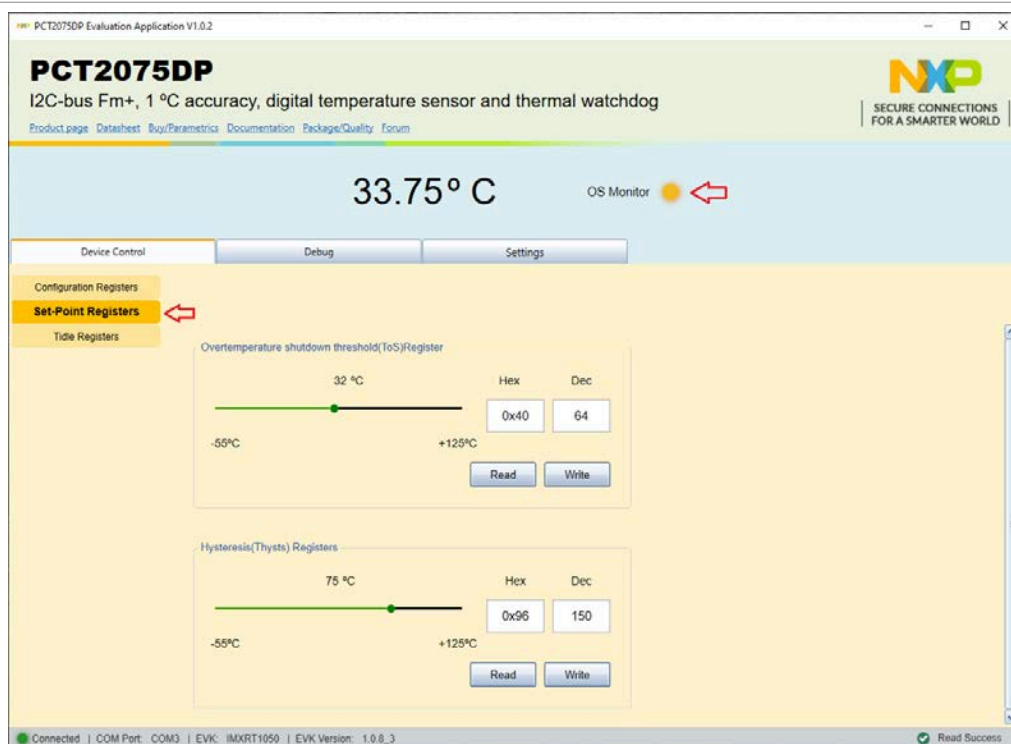

Figure 12. Graphical interface – “Device Control” / “Set-Point Registers” tab activated
The next secondary tab under the root tab **Device Control** is **Set-Point Registers**. From here, the user adjusts the Overtemperature shutdown threshold (Tos) and hysteresis (Thyst) parameters. The data to be read in the corresponding registers is introduced by dragging the graphical sliders, or by introducing the Hex or Dec values directly from the keyboard. The **Write** buttons set the register in the DUT IC, and the **Read** buttons allow the user to bring back the data from the internal registers of the IC to GUI. More details regarding Tos and Thyst are detailed in the PCT2075 datasheet. Figure 12 shows the **Device Control / Set-Point Registers** window. In the upper blue region, left side (and marked with the red arrow) the OS indicator shows the logic level of Overtemp Shutdown (OS) output of the DUT IC. The indicator replicates the status of the on-board LED (D2) located on PCT2075DP-ARD daughterboard.